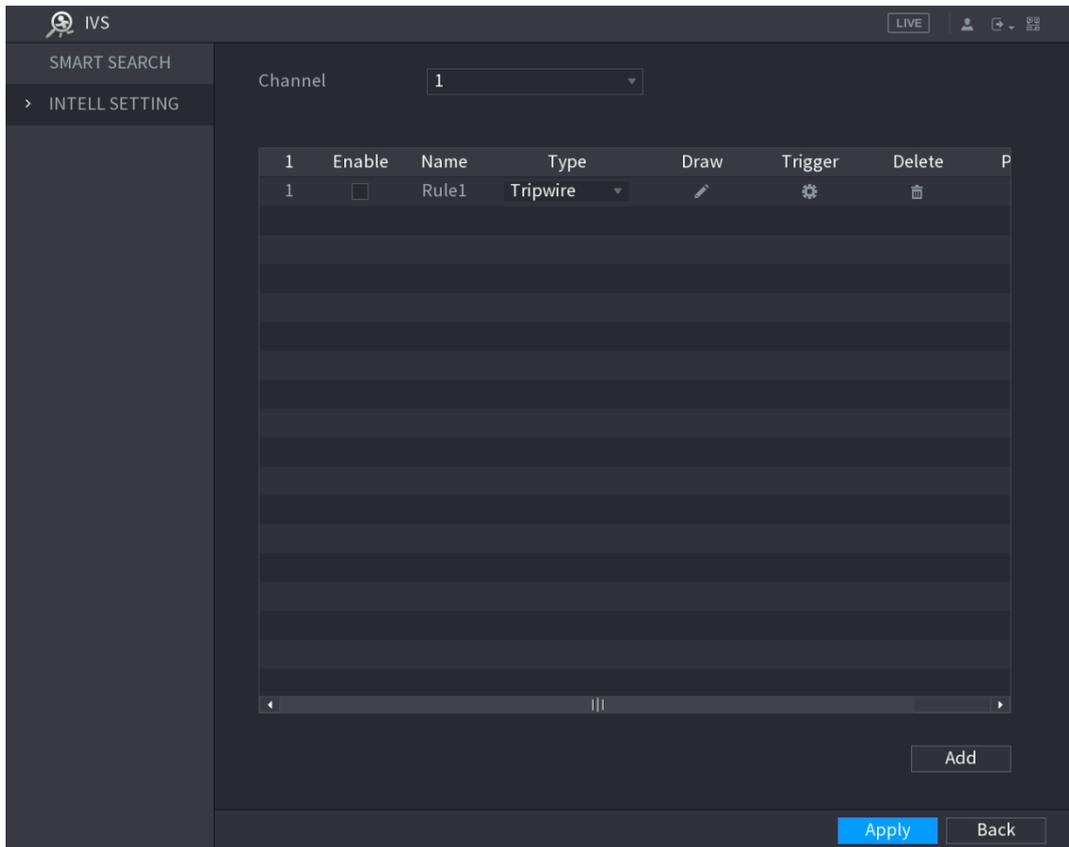

Figure 5-131
Step 1 On the rule line that you added, in the **Type** list, select **Tripwire**. See Figure 5-131.